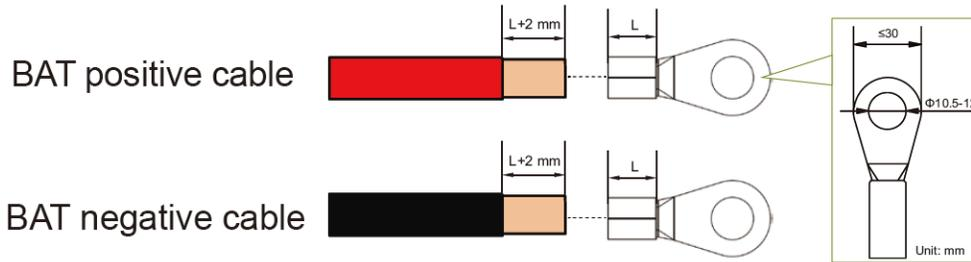

Figure 4-14 Remove Insulation Layer
1. Remove an appropriate length (see Figure 4-14) of the jacket and insulation layer from the cable.